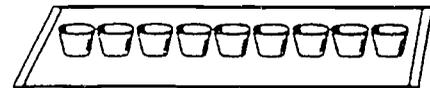

Figure 2
g. Now change the arrangement of cups on the tray. Make one long row of nine cups. If there is not enough room on your tray for one row, use two rows. See Figure 2. Repeat Steps d, e, and f. Record your results in the Data Table for the "1 × 9" arrangement.